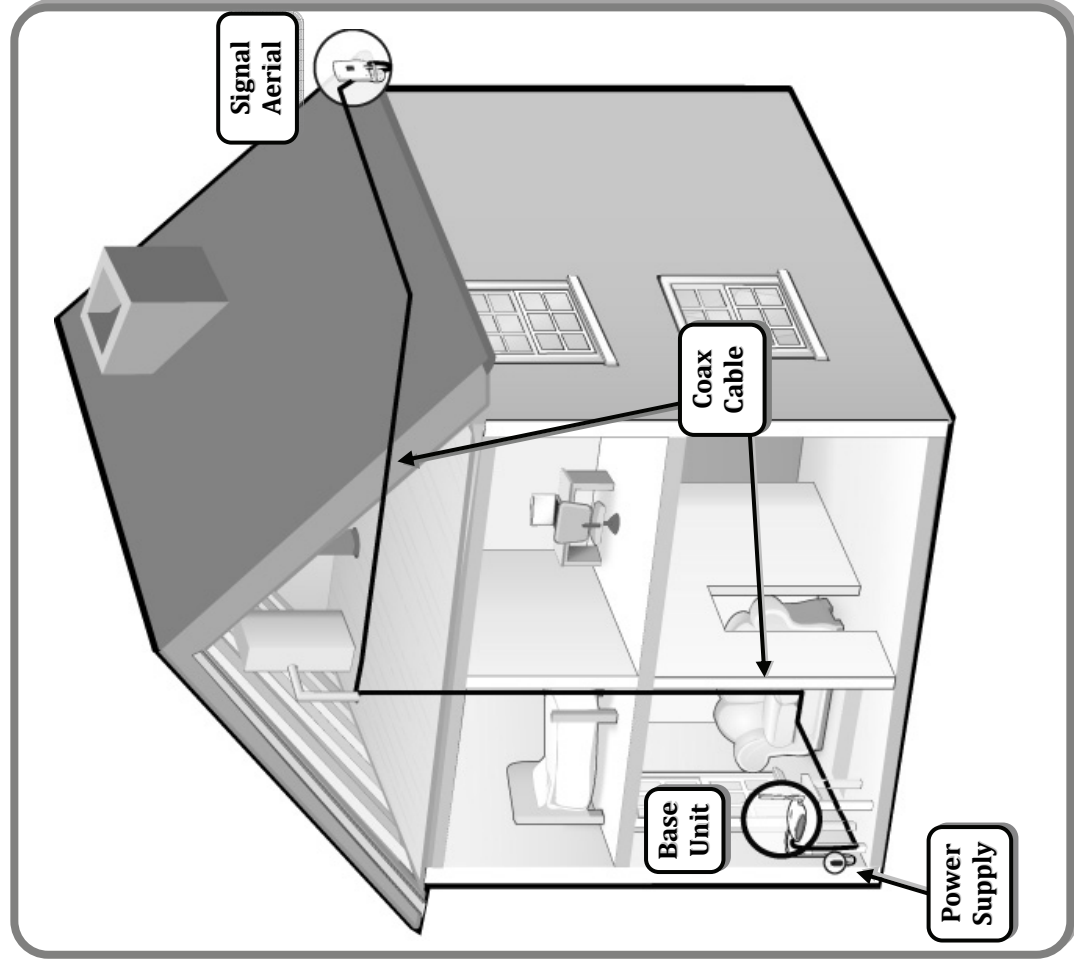

FIGURE 7: Placing the Signal Aerial on the Roof (pictured) or in the Attic
3. Position the mounting bracket such that the Signal Aerial will be vertical and attach the Signal Aerial (*see figure 7*).